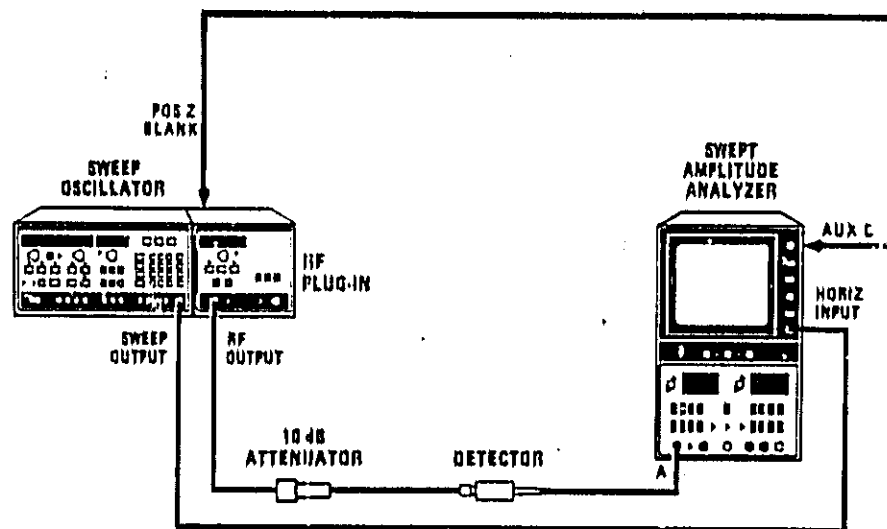

Figure 5-17. Slow Sweep SYTM to YO Tracking Test Setup
1. Connect the equipment as shown in Figure 5-17. Allow the equipment to warm up for one hour.
3. Preset A6R78 (T) one quarter turn from full clockwise position.